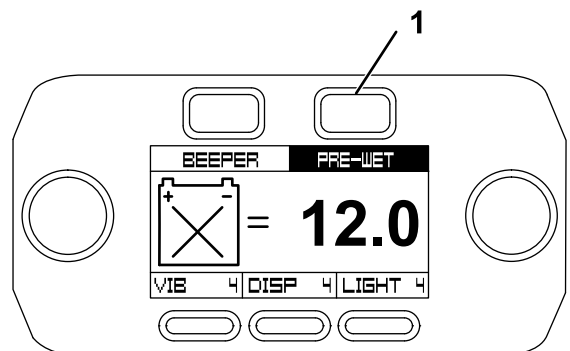

Figure 50
2. Press the Pre-Wet button (Figure 50).